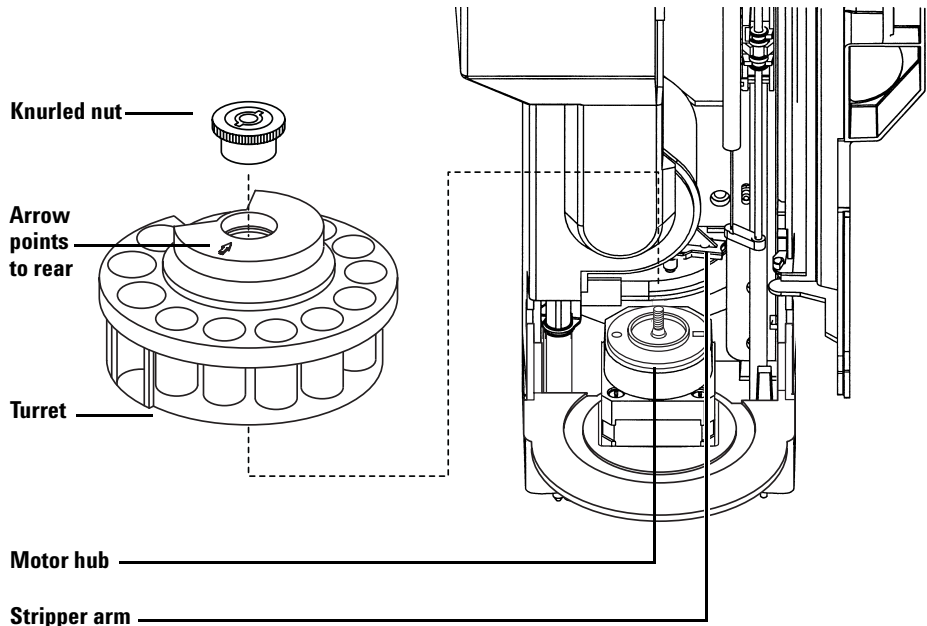

Figure 2 Removing the turret
- 3 Rotate the turret so that the open section faces the back of the tower and the arrow on top of the turret points directly back (Figure 2). Push the stripper arm toward the back, then lift the front of the turret so that it clears the center shaft. Remove the turret.